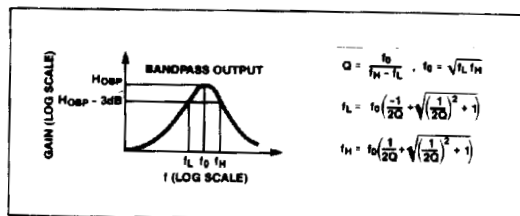

Figure 1. Bandpass Filter Terminology
- $H_{OBP}$ : The gain in V/V of the bandpass output at  $f=f_0$ . See Figure 1.